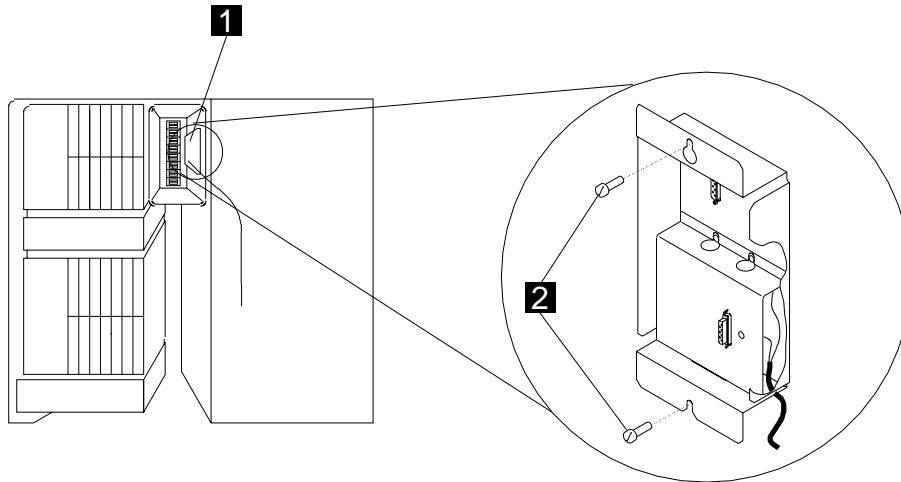

Figure 4-6. Console Tailgate of a 3745-X1A
- Step b. ____ Remove the console tailgate **1** from the 3745 frame by loosening the two screws **2** (see Figure 4-6 on page 4-9).
- Step e. ____ Install the bracket **3** on the console tailgate **1** using two screws **7** PN 1621191 (see Figure 4-6 on page 4-9).
- Step f. ____ Reinstall the console tailgate **1** on the 3745 frame, tighten the two screws **2** (see Figure 4-6 on page 4-9).
- Step g. ____ If removed in 1a, plug the customer cable into the connector **8** and the console cable into connector **6** (see Figure 4-6 on page 4-9).